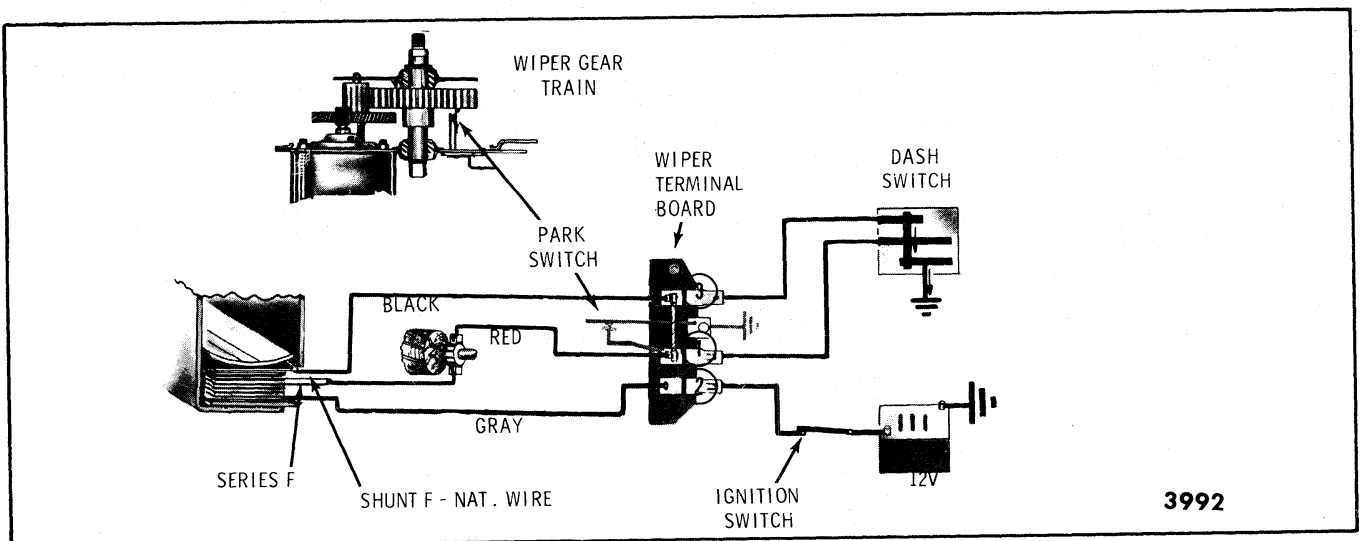

Fig. 2-3-"LO" Speed Circuit
Turning the wiper switch to the "LO" speed position completes the circuits from the wiper terminals 1 and 3 to ground. Current then flows from the battery through wiper terminal No. 2 through the series field and divides; (1) part passes through the armature to ground through wiper terminal No. 1 to the wiper switch and (2) part passes through the shunt field to ground through wiper terminal No. 3 to the wiper switch (Fig. 2-3).
DIAGNOSIS CHART - WIPER ON CAR - FIGURES 2-3, 2-4 AND 2-5